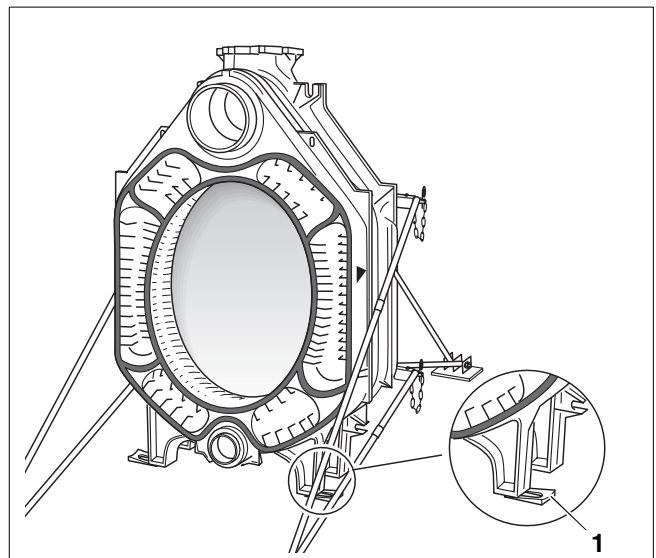

Fig. 18 Using wedges for feet of boiler section
Fig. 18 shows the rear section with the first middle section fitted to it. The preparations for fitting the next section have already been made.
To simplify assembly, the boiler section has been lined up with wedges for the boiler section feet (Fig. 18, **ref. 1**). These wedges will also be used later on when the fully assembled boiler block has finally to be lined up.